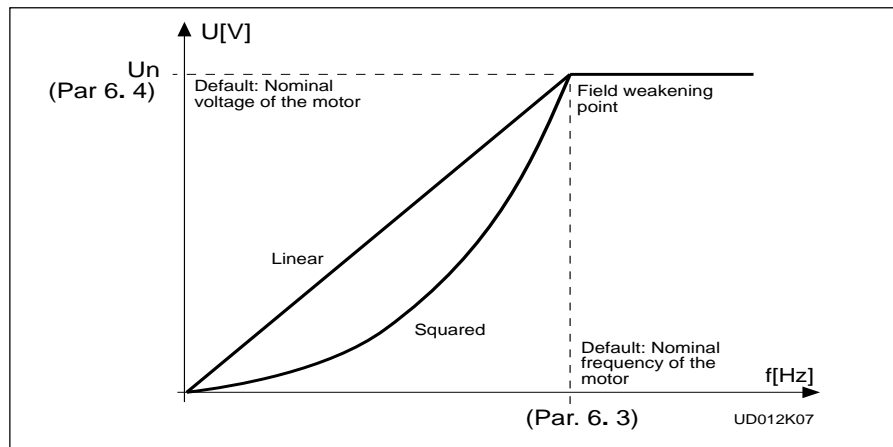

Figure 3.4-1 Linear and squared U/f curves.
**0** Linear: The voltage of the motor changes linearly with the frequency in the constant flux area from 0 Hz to the field weakening point (par. 6.3) where the nominal voltage is also supplied to the motor. See figure 3.4-1.
**1** Squared: The voltage of the motor changes following a squared curve form with the frequency in the area from 0 Hz to the field weakening point (par. 6.3) where the nominal voltage is also supplied to the motor. See figure 3.4-1.